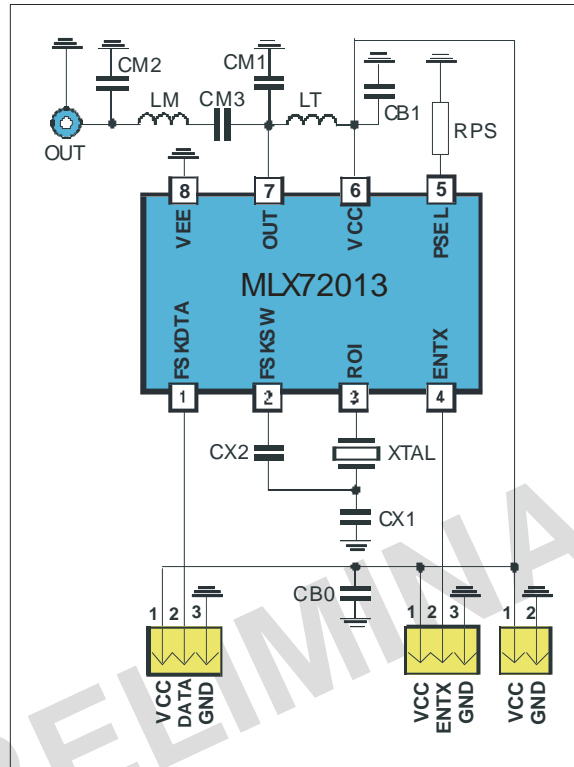

Fig. 6: Test circuit for FSK with 50 Ω matching network
typical values at $T_A = 23\text{ °C}$ and $V_{CC} = 3.6\text{ V}$; test circuit shown in Fig. 6, $f_c = 433.92\text{ MHz}$
5.1 Test circuit component list to Fig. 6